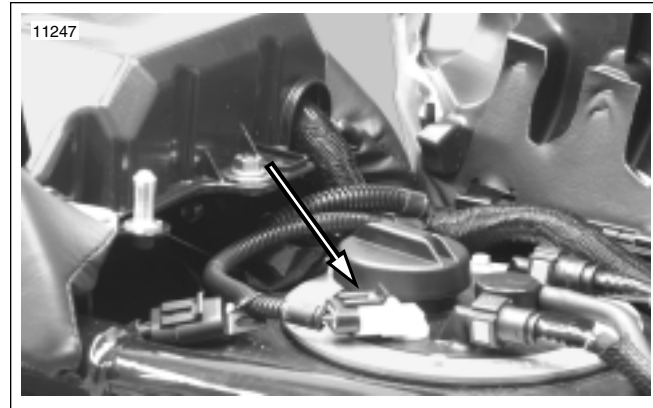

Figure 4-41. Fuel Pump Connector [141] (typical) (VRSCR shown)
1. See Figure 4-41. Disconnect fuel pump connector [141] from top of fuel tank.